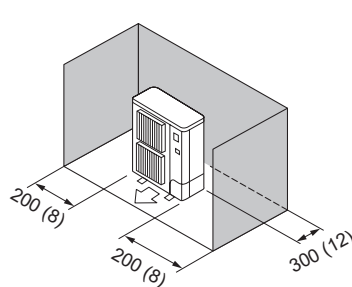

Fig. 2-8
- (3) Obstacles at rear and sides only (Fig. 2-8)